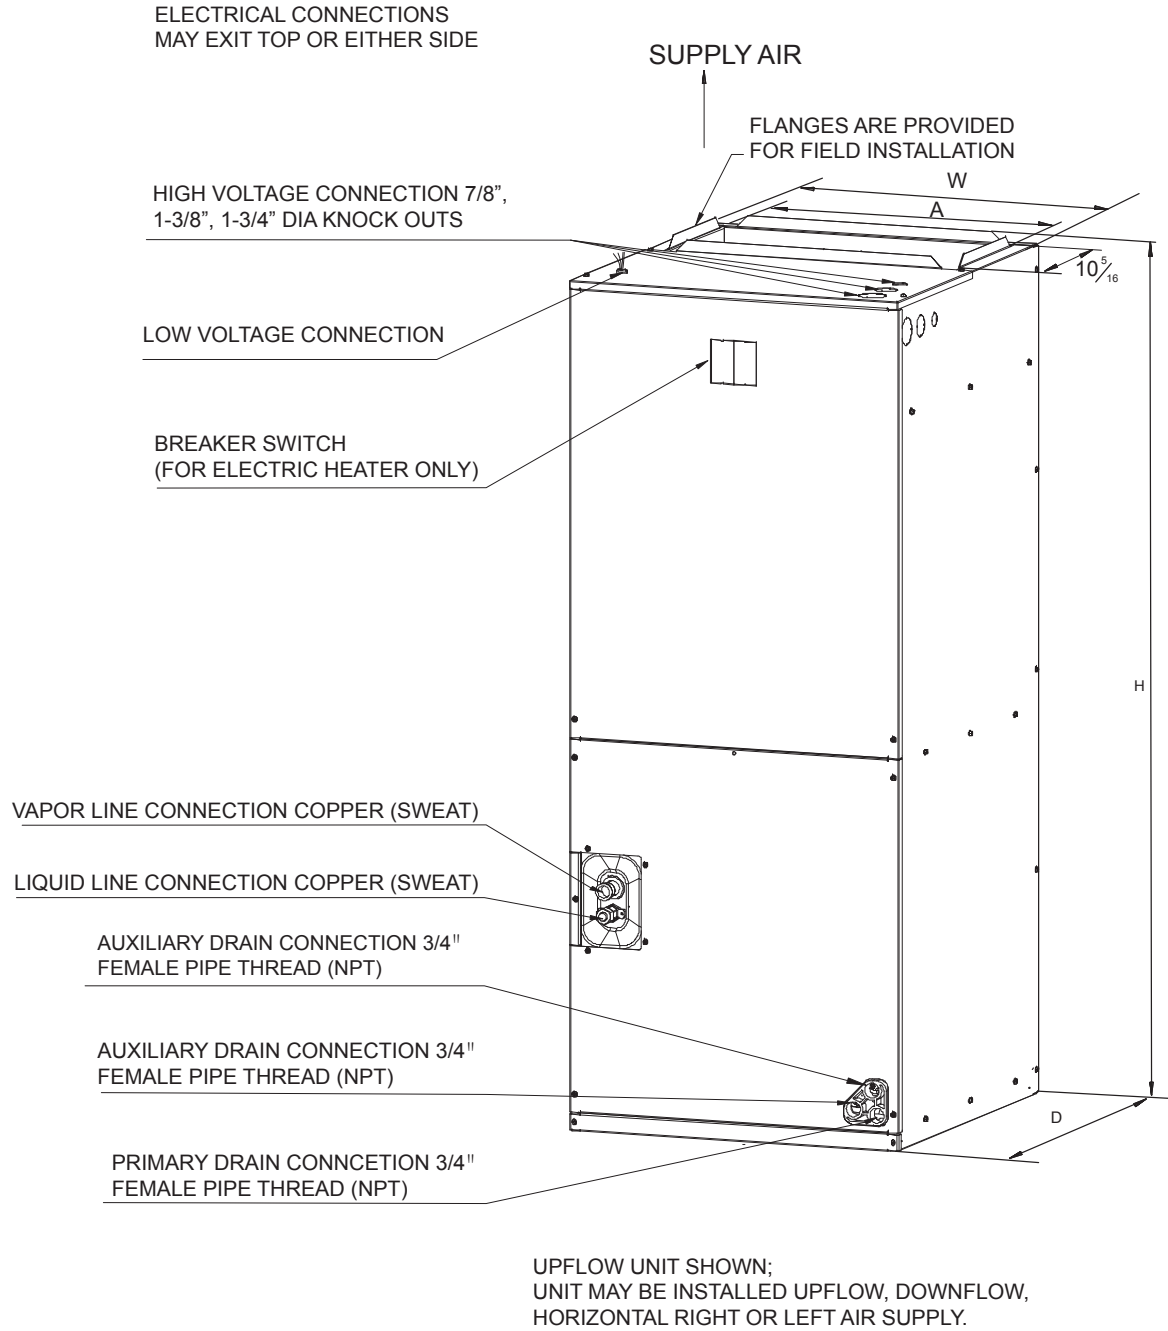

Fig.6 DIMENSIONS
Top and side power and control wiring, accessible screw terminals for control wiring all combine to make the installation easy, and minimize installation cost. See Fig.6.
- Vertical Upflow configuration is the factory set on all models. See Fig.6.
Torque applied to drain connections should not exceed 15ft.lbs. See Fig.6&7.